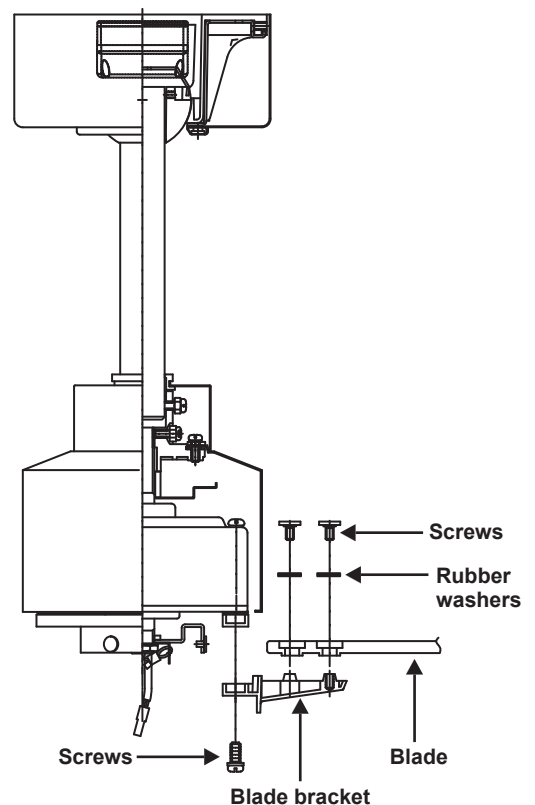

Figure 14
1. Fasten blade to motor using the rubber and screws supplied. (Fig. 14)